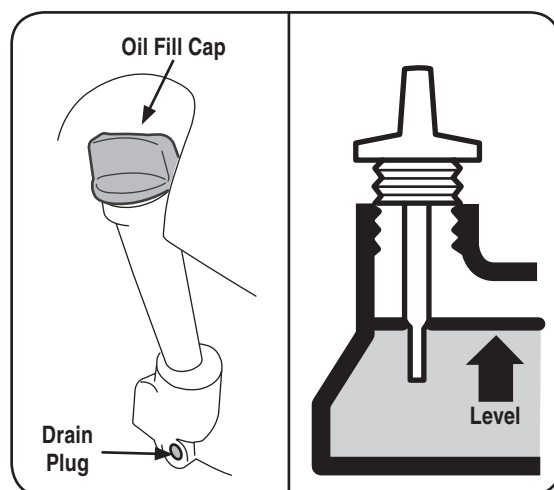

Figure 10-1
1. Remove oil fill cap and drain oil by either removing drain plug or turning mower on its side (air cleaner side up) and allowing oil to drain into a suitable container. See Figure 10-1.
3. Refill with the recommended oil (see page 16) and check the oil level. See Figure 10-1.